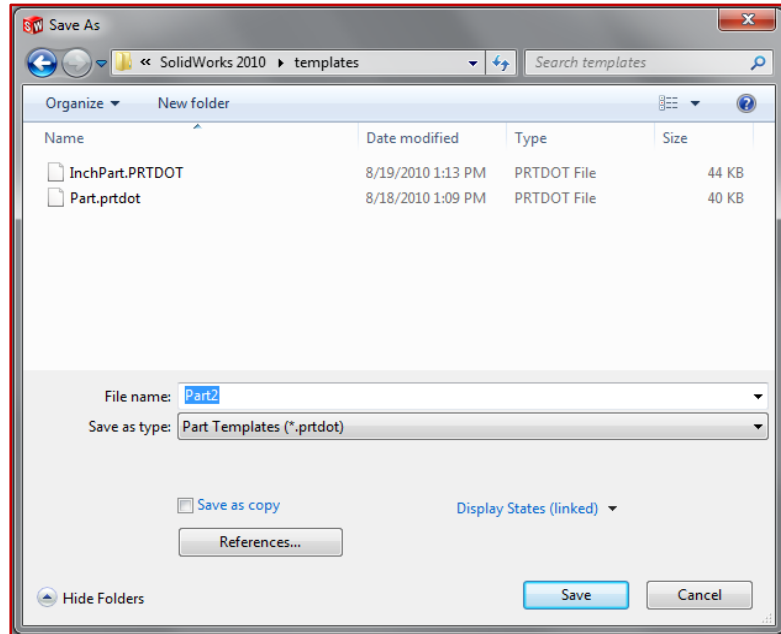

Figure 2.7 – Saving a Part Template
- ✓ In the **Quick Access toolbar** click **Options→System Options→File Locations**. See Figure 2.7.